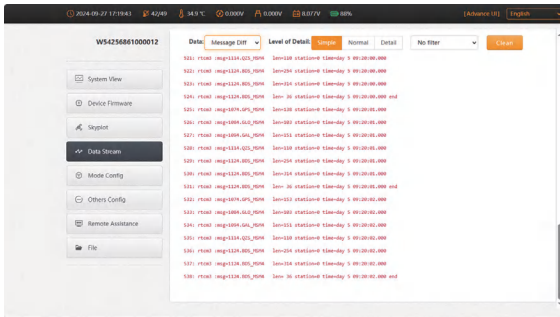

Figure 2.4-4
3. Message Diff: when the device is a base station, you can check here whether there is differential data output, as shown in Figure 2.4-4: